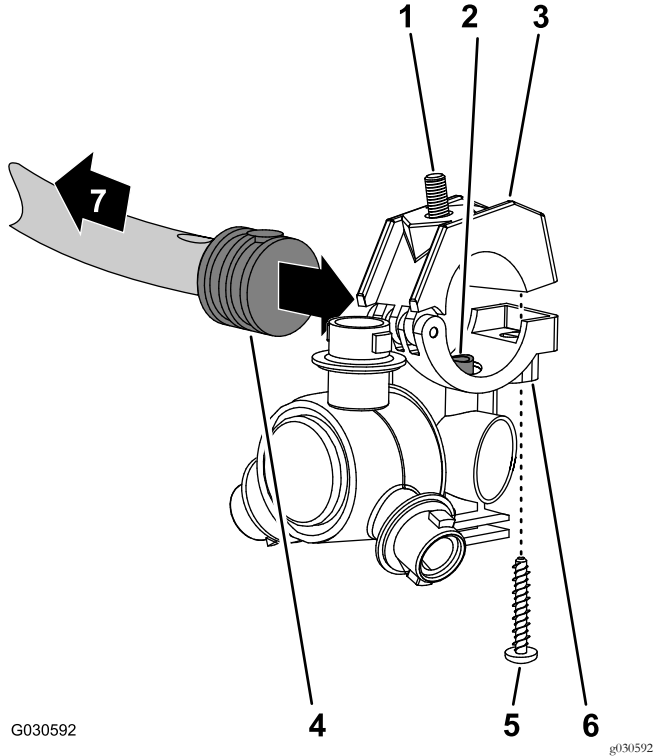
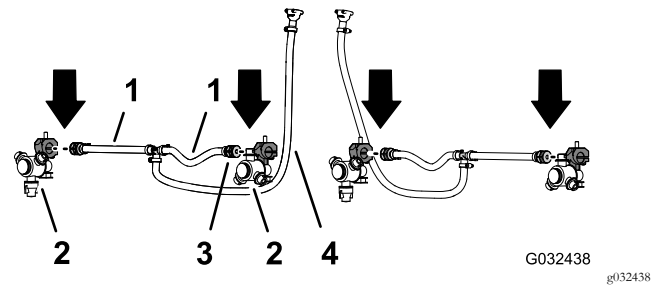

Figure 55
Figure 56
2. Working with the 2 sprayer nozzle from the GeoLink spray system finishing kit, remove the stainless steel screw that secures the upper clamp half to the saddle (Figure 55).
3. Locate the hole in the side of single barbed-hose shank at the end of the hose 25 cm (10 inches) of the hose assembly (sprayer valve 5 or 6) for the center-spray section (Figure 55 and Figure 56).
4. Align the transfer tube in the saddle of a sprayer nozzle (Figure 55) with the hole in the side of the single barbed-hose shank (1/2 inch).
5. Close the upper clamp half around the barbed-hose shank and secure the clamp half and spray-nozzle body (Figure 55) with the stainless steel screw (#12 x 1-1/4 inches); torque the stainless steel screw to 14 to 18 N·m (20 to 25 in-lb).
6. Working with the sprayer nozzle, hex-head bolt, and stainless steel screw that you removed in steps 1 and 2 of Removing the Sprayer Nozzles (page 22), repeat steps 3 through 5 to the single barbed-hose shank (Figure 55 and Figure 56) at the end of the other hose 25 cm (10 inches).
7. Working with the 2 sprayer nozzles that you removed in step 4 of Removing the Sprayer Nozzles (page 22), repeat steps 3 through 5 to the single barbed-hose shanks of the other hose assembly (sprayer valve 5 or 6) for the center-spray section (Figure 55 and Figure 56).